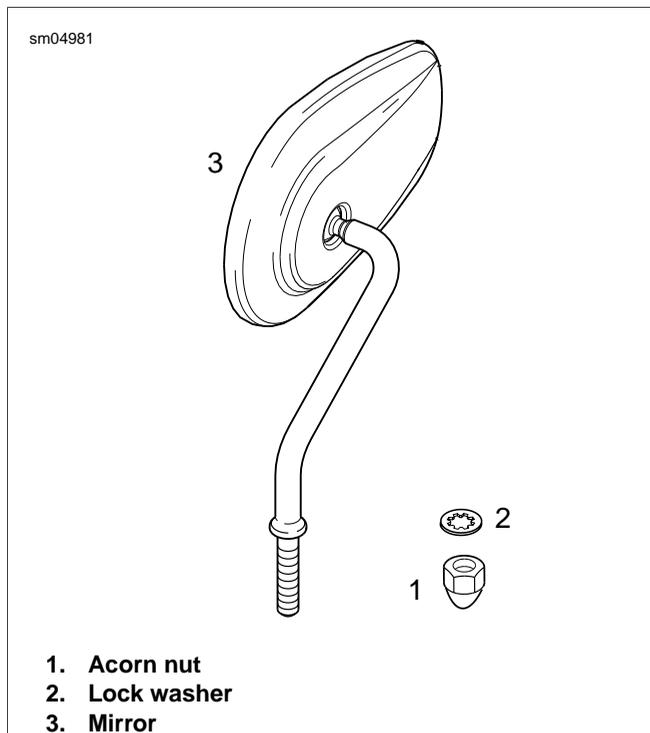

Figure 2-99. Mirror Assembly (All Models Except FLHX)
2. Remove threaded stem of mirror from hole in clutch or brake lever bracket. See Figure 2-99.